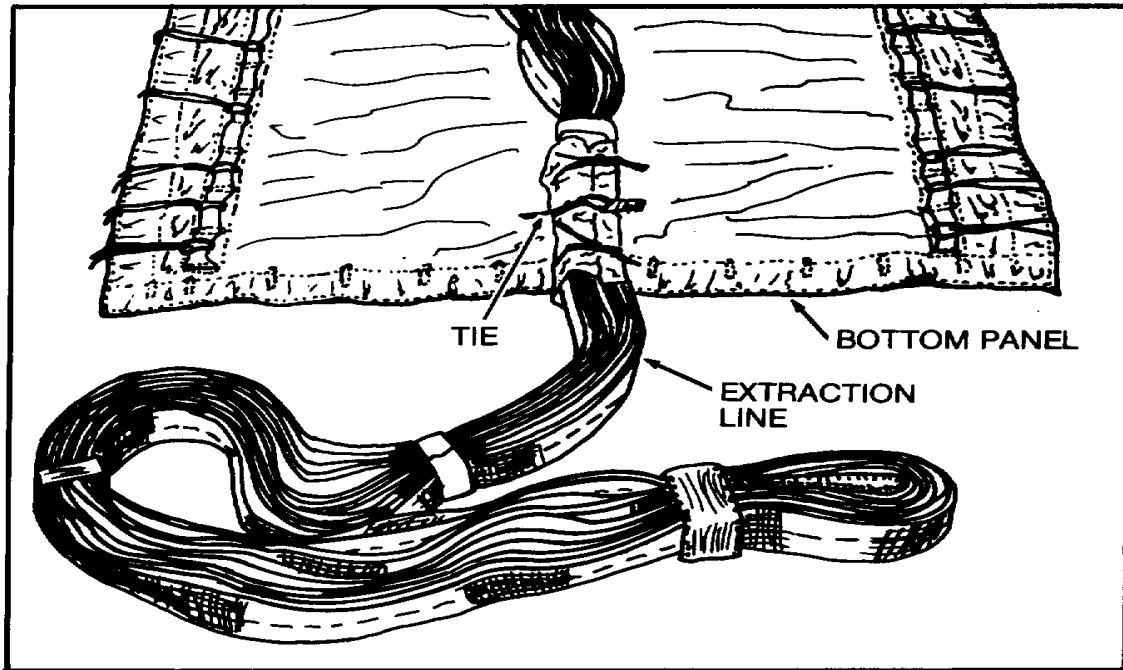

Figure 3. Extraction Line Secured to Bottom Panel.
- c. Pass running ends of 42-inch length of ½-inch tubular nylon webbing extraction line, pass each running end in opposite directions, down and under stow loop and back to top of extraction line. Secure running ends on top of extraction line with surgeon's knot, locking knot, and overhand knot on running ends (figure 3).